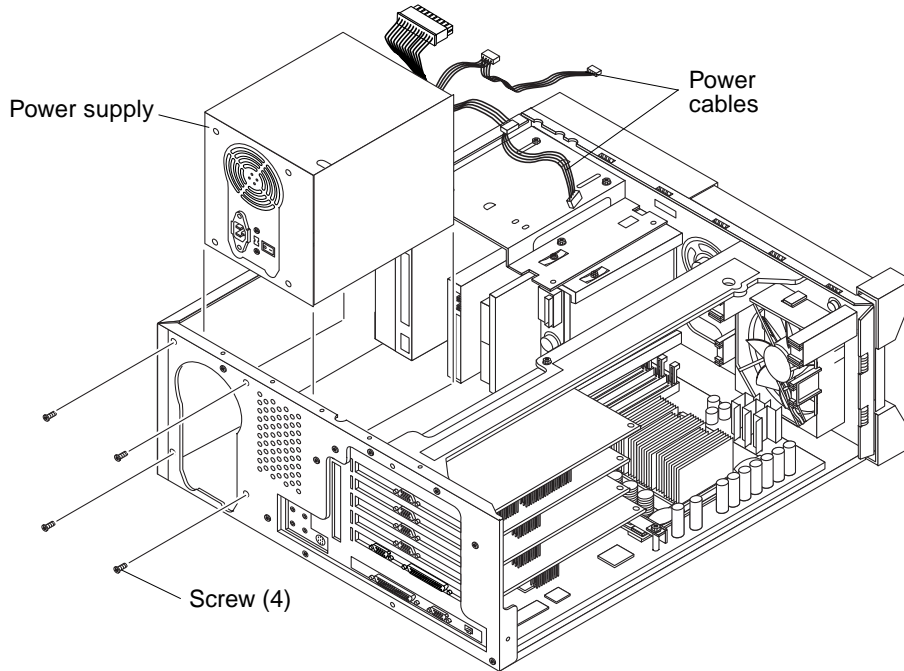

FIGURE 6-1 Removing and Replacing the Power Supply
2. Remove the power supply as follows (FIGURE 6-1):
1. Replace the power supply as follows (FIGURE 6-1):